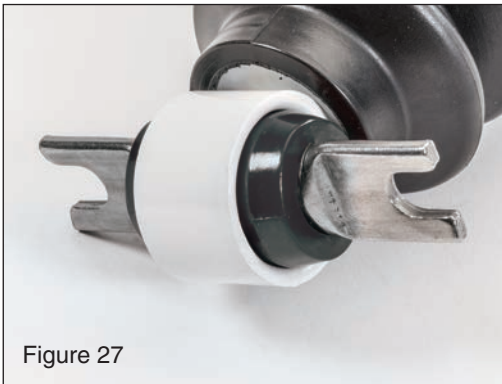

Figure 27
*Locate and assemble rear shocks as shown (see FIG 27 & 28). Install into top mount using original hardware and torque to 23 ft lbs.*